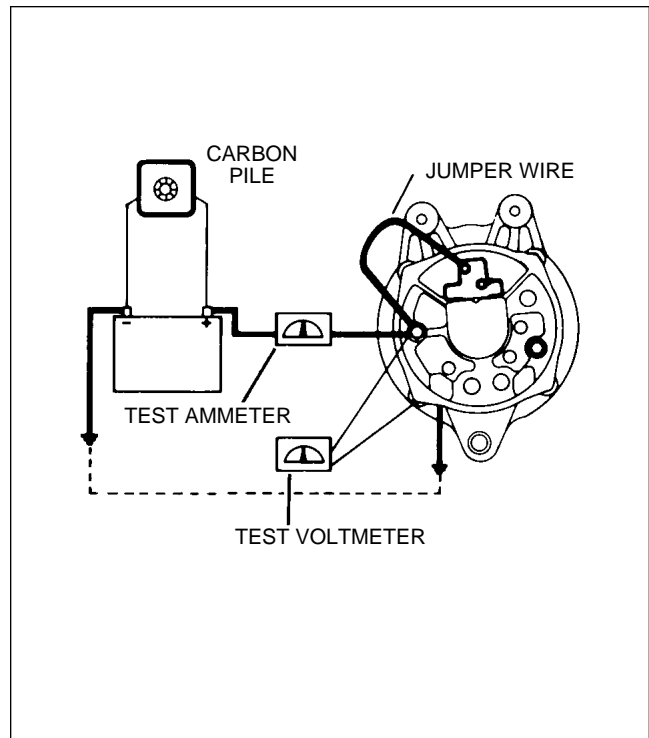

Figure 24-13. Testing Prestolite Alternator
- a. Wiring connections for bench testing alternator are in Figure 24-13. Refer to Chart 2403 for output test figures. Adjust carbon pile to obtain specified voltage.